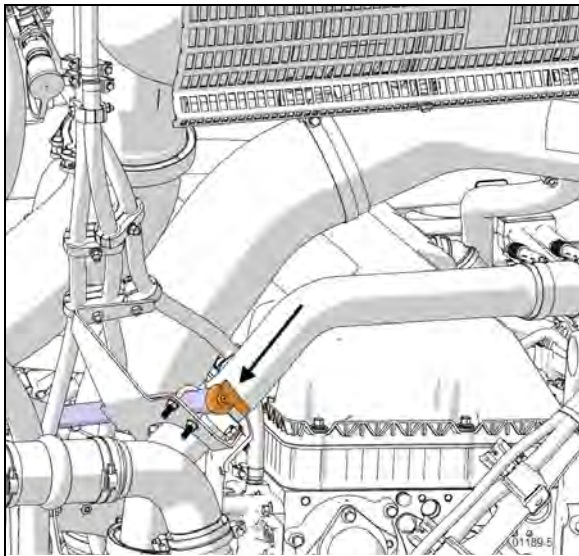

FIGURE 3: FLUID LEVEL DIPSTICK (ALLISON)
To gain access to the dipstick, open the engine compartment rear door; dipstick is located on the radiator side of the engine (Figure 3).
4. While the engine is running, remove the dipstick from the tube and wipe it clean (Figure 3). Insert the dipstick into the fill tube, pushing down until it stops.